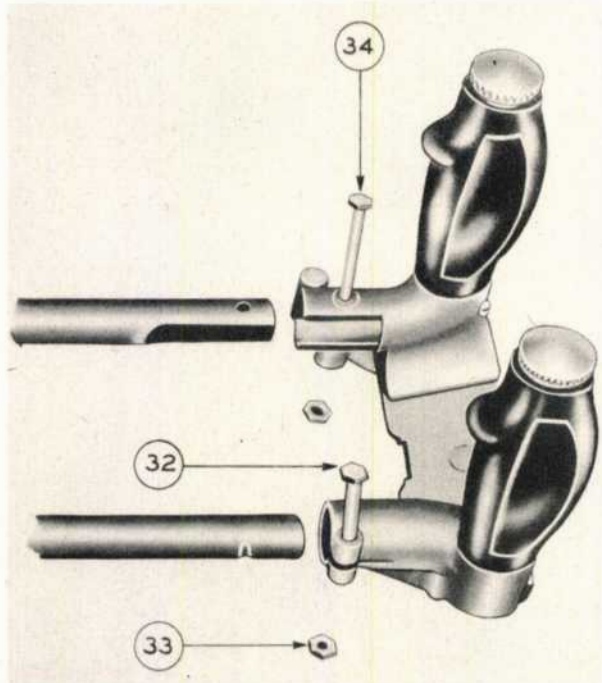

Figure 14—Disassembling Rear Support Assembly—Type E-11
c. Disassemble rear support assembly (figure 14) by removing nuts (33), bolt (34) and bolt (32). Remove screws holding struts to disassemble the E-13.
g. Reassemble rear support assembly by replacing bolt (32, figure 14) in left bearer, bolt (34) in right bearer, and nuts (33).